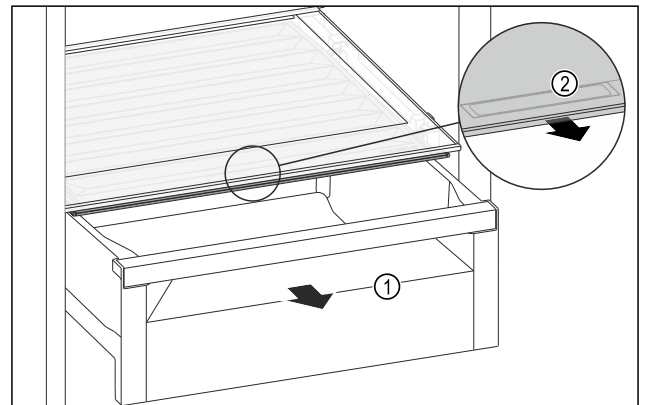

Fig. 116
- Pull out the drawer Fig. 116 (1).
- Grasp the recessed grip Fig. 116 (2) on the compartment lid and pull the compartment lid forwards at the same time.